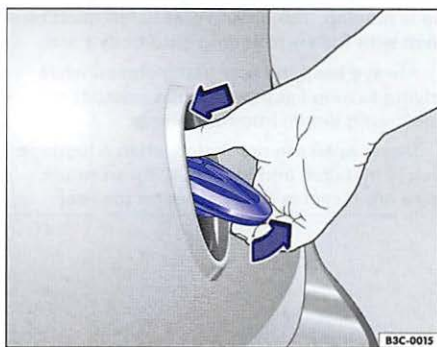

Fig. 28 Opening rear hatch from the outside.
- Using your thumb, press the top of the Volkswagen emblem ⇒ fig. 28 and move the emblem down. Grasp the bottom part of the emblem and pull to lift the rear hatch.